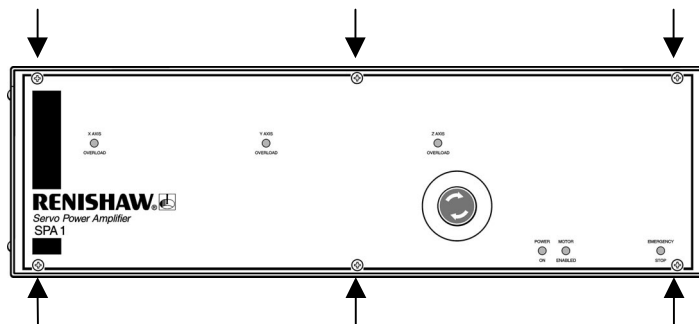

Figure 12 – Front of SPA unit showing screws
1. Remove the front panel of the SPA1 by releasing the 6 fixing screws that restrain the front panel as shown in figure 12.